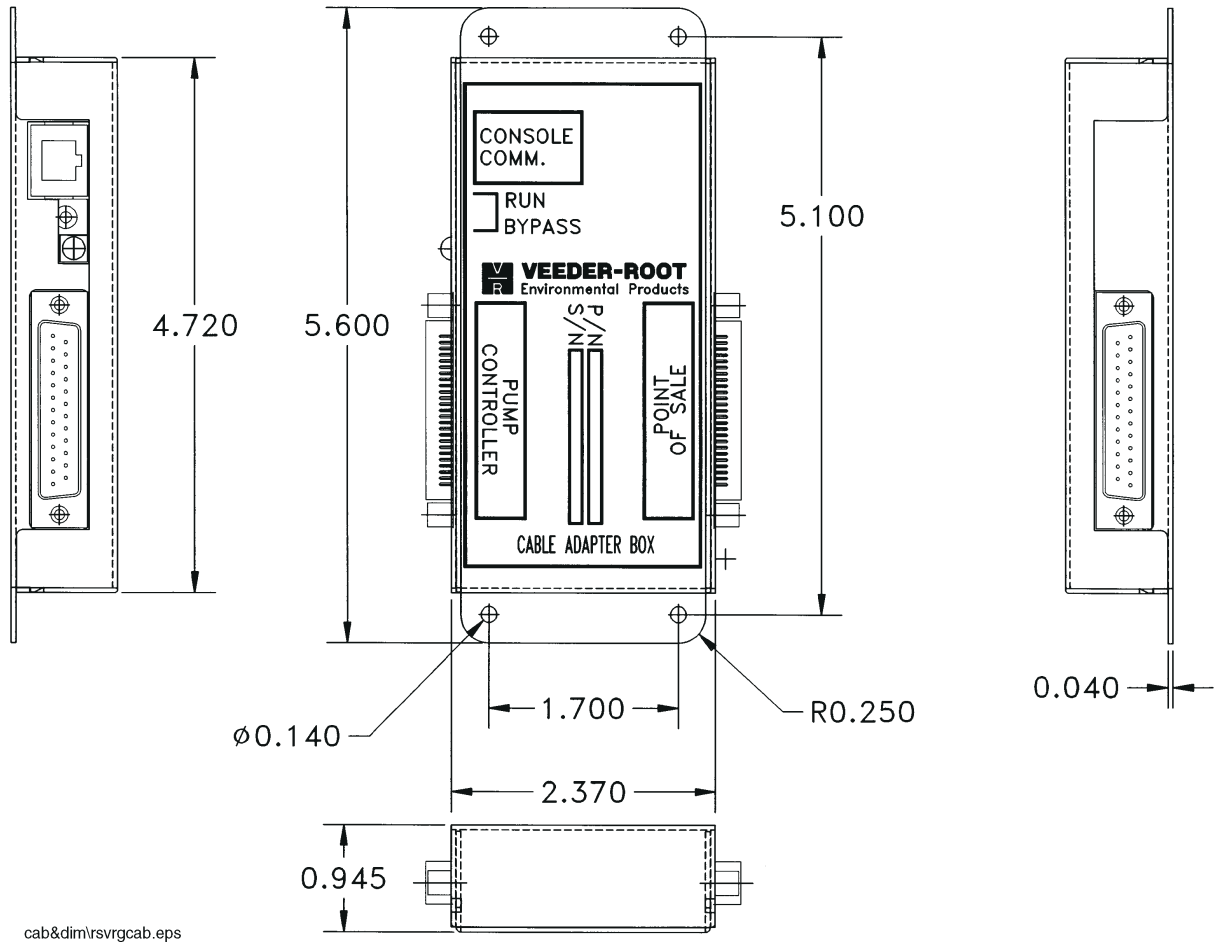

Figure 4. Dimensions of RS-232 Cable Adapter Box
The Cable Adapter Box (CAB) should be placed as close as possible (within 6 feet) to the Pump Controller Box (see Figure 3 on page 6 and Figure 4 on page 7).
- Mount the CAB using either the 3M “hook and loop” pads provided in the kit, or utilize the mounting ears on the CAB (see Figure 3 on page 6 and Figure 4 on page 7). Choose a surface that is clean, dry, and oil-free. For the 3M “hook and loop” pads, remove the backing paper from the back of the pad. Place the adhesive side on the surface and press firmly into position. The adhesive must be allowed to set for a minimum of one hour before attaching or removing the CAB.